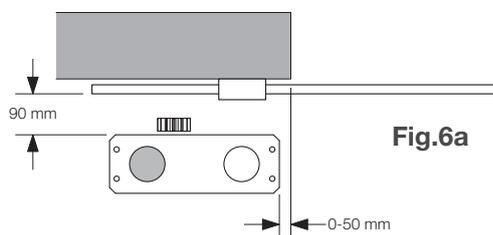

Fig.6a
The positioning of the plate must respect the distances indicated in figures 6a/b/c/d (seen from above):
- Fig. 6a installation with motor on the left